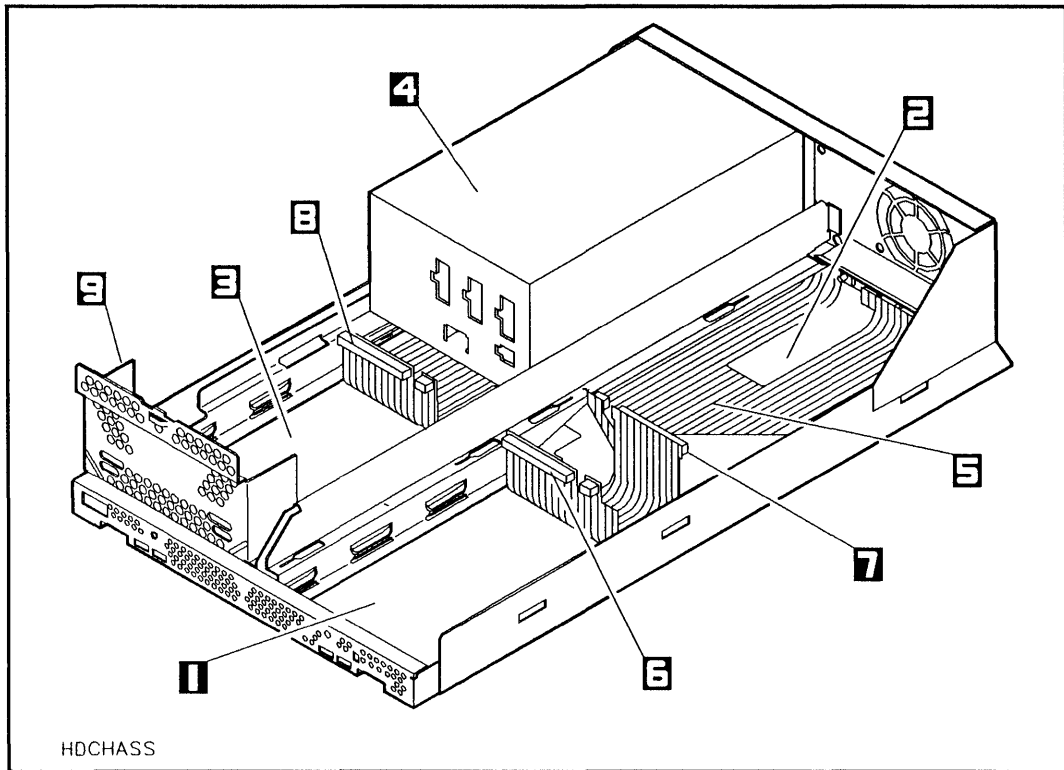

Figure 2-4. Mass Storage System Chassis
7. Secure the dc power cable with the cable tie next to the power supply (see Figure 2-4).